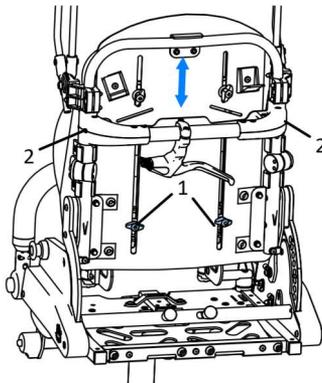

Fig. 12
To adjust the height of the backrest Fig. 12 loosen the locking knobs (1) of the lateral supports and the locking screws (2) located on the backrest handle using the H3 wrench. Then set the desired backrest height and lock it by tightening the screws (2). Set the correct position of the lateral supports and tighten the knobs (1) that lock the chest supports.